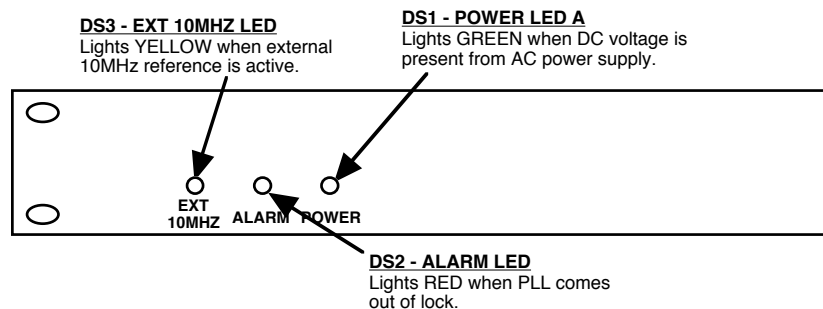

FIGURE 2.2 2116-118 Front Panel Controls and Indicators
Figure 2.2 shows the front panel indicators.
4. Be sure DS1 (green, DC Power) is on and DS2 (red, Alarm) is off (Figure 2.2).
6. If EXT is selected or AUTO is selected and there is a 10MHz, 3 dBm signal at J2, check that DS3 (yellow, Ext 10MHZ) is on (Figure 2.2).